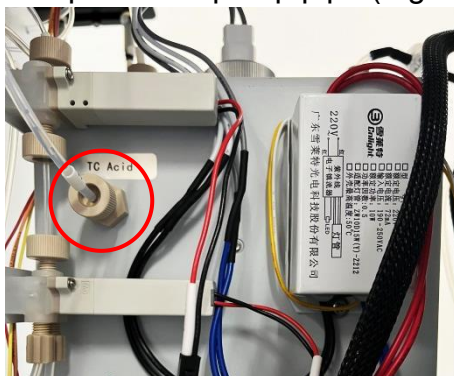

Fig.6.36
5) Prepare a new pump tube (Fig. 6.36), install it in reverse steps as described above.
2)Open the door panel on the right side of the instrument and screw down the outlet connector of the TC acid peristaltic pump pipe (Fig.6.36) .